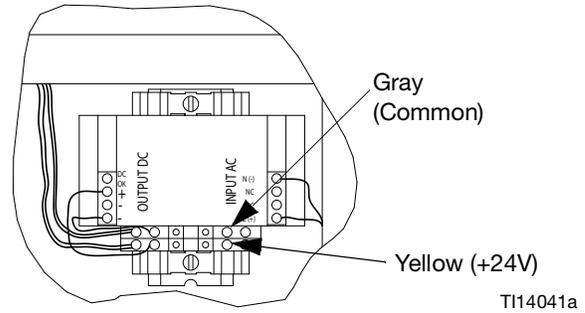

FIG. 2: Power Terminal Connections
4. Connect yellow and gray wires from beacon to the power terminal. See FIG. 2.
3. Connect yellow and gray wires from beacon to the power terminal. See FIG. 2.